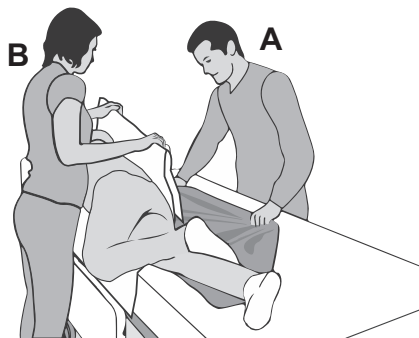

Figure 8
10. (Caregiver A) Unravel the sliding aid from under the patient to make sure that it is placed under the whole patient and straighten it out. **(See Figure 8)**